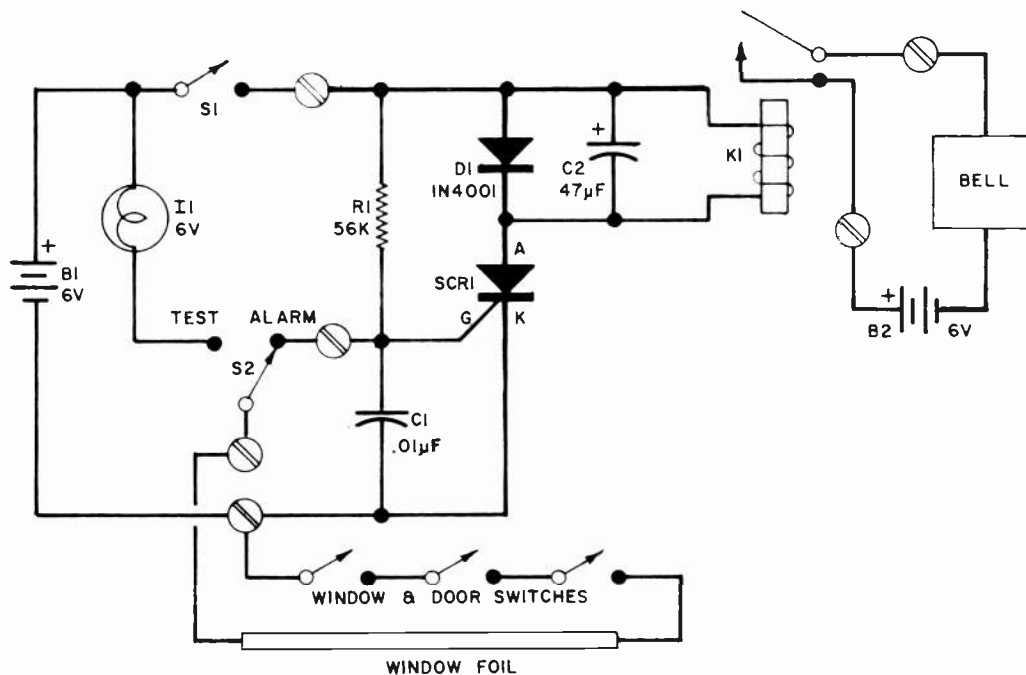

Fig. 25. Schematic diagram of a low-cost perimeter-protection burglar alarm.
The schematic diagram of the intruder alarm is shown in Fig. 25 along with its Parts List. This alarm is designed to use low-current magnetically operated door and window trip switches and window foil in a solid-state perimeter-protection system.
**Construction.** This simple circuit can be assembled on a piece of perforated circuit board with the aid of push-in solder terminals. The parts you'll need are detailed in the Parts List in Fig. 25. Components can be mounted on the board and wired as shown in Fig. 26. Be careful to observe the polarities of *C2* and *D1* and the lead identifications for *SCR1*. Interconnections between components, shown as broken lines, should be made with No. 22 insulated *solid* hookup wire on the underside of the board.